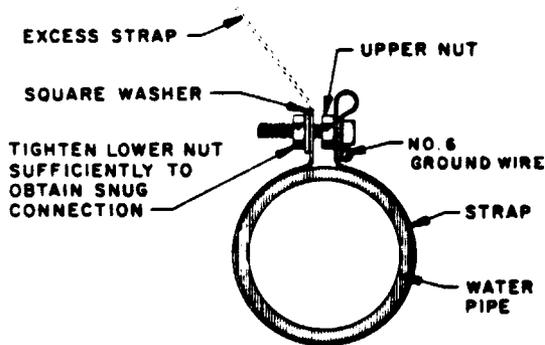

Figure 56—Attaching L Ground Clamp to 3-inch and Smaller Pipe
(7) Break off excess strap at the square washer and cut off excess length of bolt if it interferes with the installation of the clamp or projects in a hazardous manner (Figure 56). (See Figure 57 for typical installations of L ground clamp.)
(8) Attach Form E-3013B.